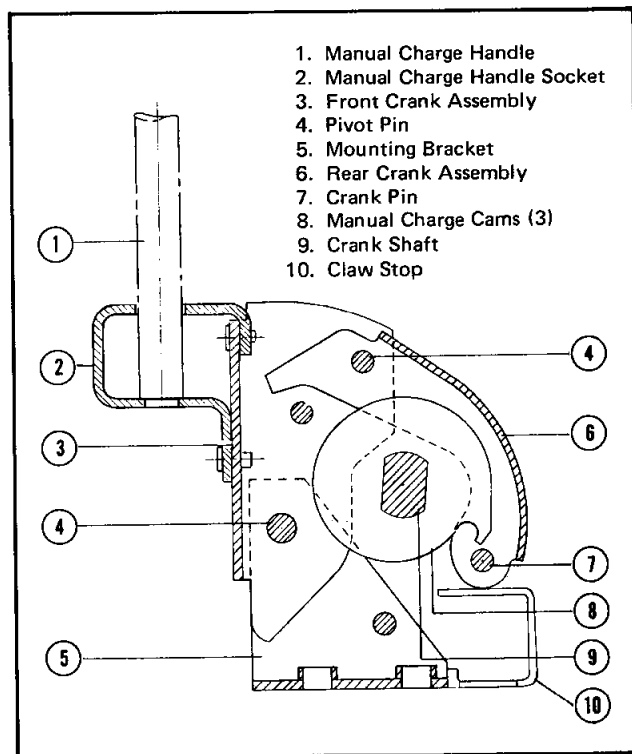

Fig. 21 Spring-Charging Mechanism on Manual Operated Breakers
Power-operated breakers are also equipped for emergency hand charging the closing springs. Refer to Figure 21. This operation is similar to that of the motor and oscillator except a separate emergency charge pawl (33) is used to advance the ratchet wheel (17) several teeth on each stroke of the charge handle (34). This device (26) also pivots on the crank shaft.
Figure 21 gives the details of this spring-charging device which is located between the mechanism right hand side frame and the right crank arm. A part of this assembly is the manual charge cam which is rigidly fixed to the crank shaft, the same as the main close cam and crank arms.